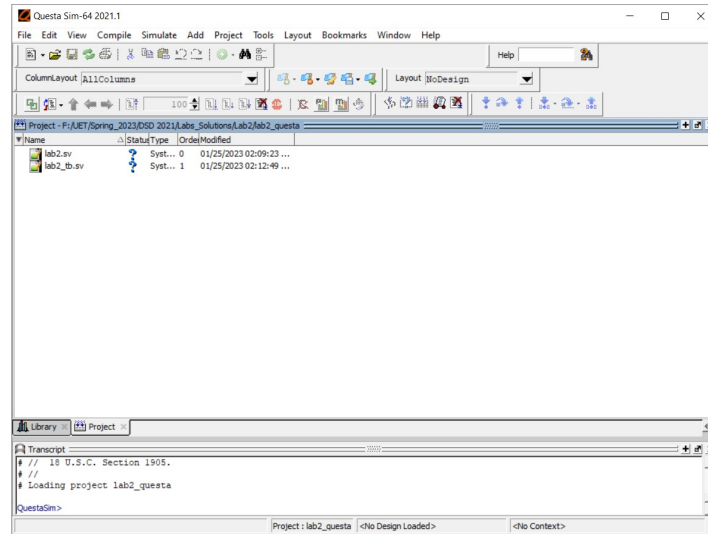

Fig. 3.7: QuestaSim project created.
5. The two files will be added to QuestaSim project (Fig. 3.7).